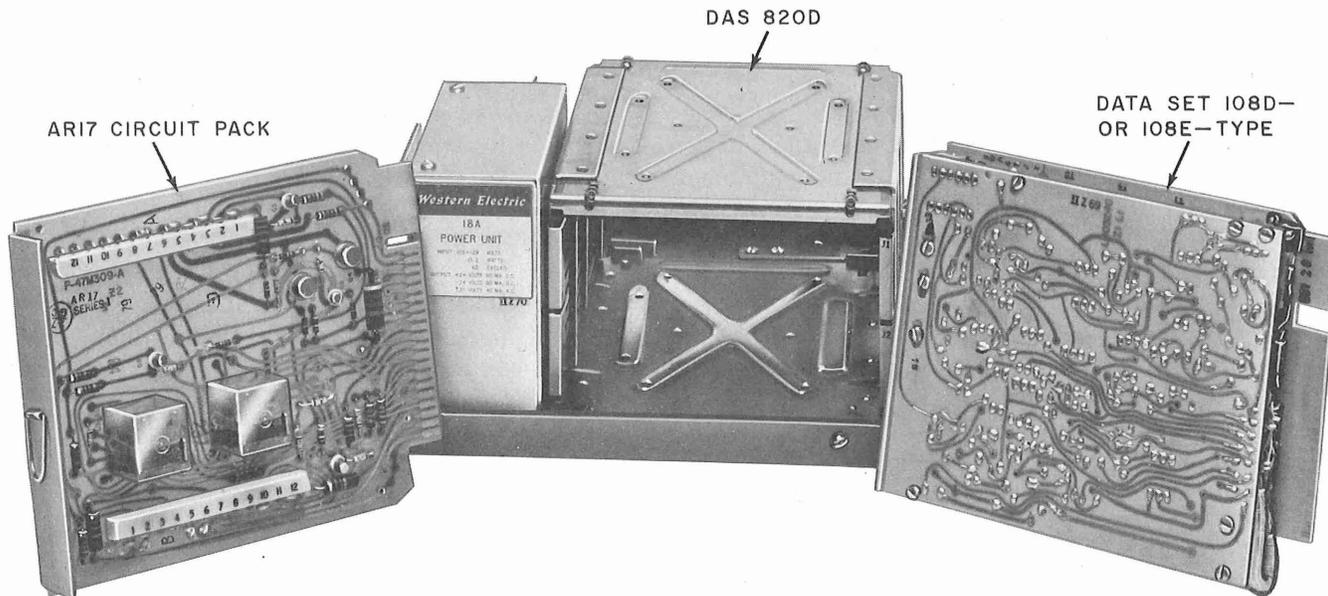

Fig. 2—Data Set 108D- or E-Type and AR17 Circuit Pack Used in Data Auxiliary Set 820D
- (1) Remove cover of DAS 820D-L1, or gain access to DAS 820D-L1A.
- (2) Remove carrier squelch on carrier fail option (if installed) by opening screw switch A7 on AR17 circuit pack (see Fig. 2), and verify that the near-end station is *not* in the test mode.
- (3) Remove customer interface cord from J3 of the DAS, and plug cord from the interface test adapter in its place.
- (4) Operate 1013 handset TALK MON switch to MON, and connect leads to data set TP1 and TP2 (2-wire or 4-wire).
- (5) Clip one end of W1AD cord to terminal 2 (BA lead) of interface test adapter.
- (6) Using free end of W1AD cord, momentarily touch terminal 9 (+24V) of the interface test adapter for an E1A interface arrangement or terminal 10 (-24V) for a current interface while monitoring with 1013 handset.
- (7) Monitor for shift in tone.
- (8) Remove handset and interface test adapter, replace carrier squelch on carrier fail if originally installed, and replace cover, if supplied.
- (1) Remove cover of DAS 820D-L1 or gain access to DAS 820D-L1A.
- (2) Remove carrier squelch on carrier fail option (in installed) by opening screw switch A7 on AR17 circuit pack (see Fig. 2), and verify that the near-end station is *not* in the test mode.
- (3) Remove customer interface cord from J3 of DAS, and plug cord from the interface test adapter in its place.